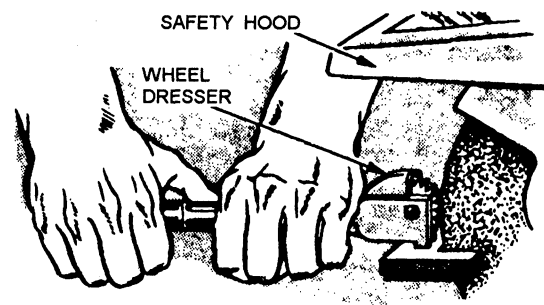

Figure 1-3.—Using a grinding wheel dresser.
- Grinding wheels require frequent reconditioning. *Dressing* is the term used to describe the process of cleaning the periphery. This cleaning breaks away dull abrasive grains and smooths the surface, removing all the grooves. The wheel dresser shown in figure 1-3 is used for dressing grinding wheels on bench and pedestal grinders. For more information on grinding wheels, you should consult chapter 5 of NAVEDTRA 10085-B2 (*Tools and Their Uses*).